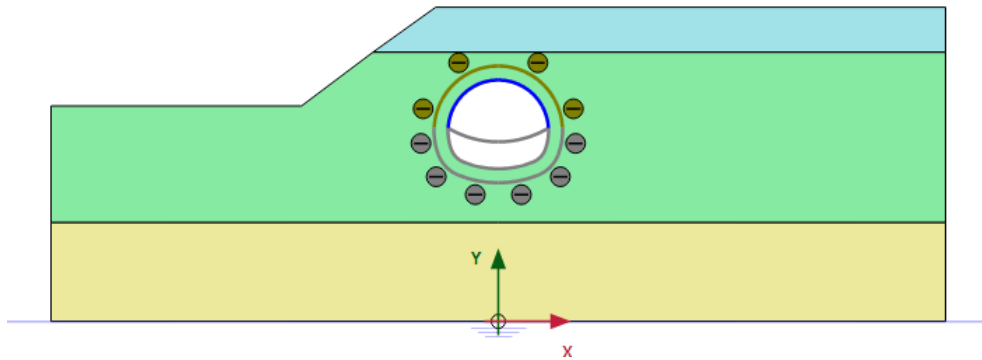

Figure 6–9: Configuration of Phase 3
- 4 The model for phase 3 can be seen in Figure 6–9 \(p. 118\).